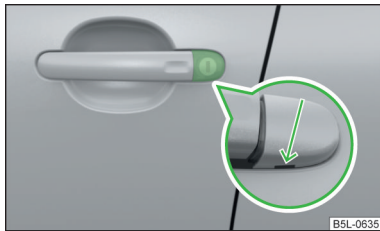

Fig. 195
- › Insert the vehicle key into the slot on the bottom of the cover in the arrow area » Fig. 195.